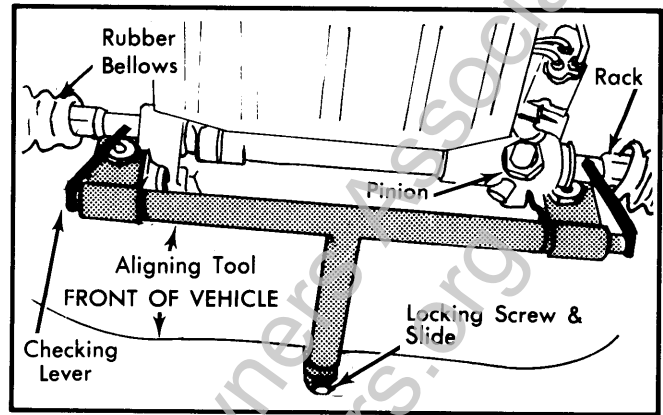

Fig. 4 Installing Rack and Pinion Gear
3) Install attachment brackets, of alignment tool JD. 36A, over large hex head bolts on lower control arms. It may be necessary to bend shields slightly to locate tool correctly. See Fig. 4.